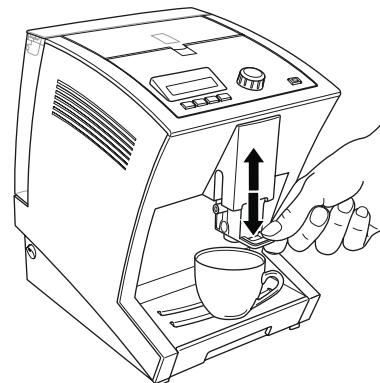

Fig. 5: Placing the cup underneath and adjusting the dispenser height.
1. Place a cup on the cup tray below the coffee-milk dispenser of the device and adjust the height of the coffee-milk dispenser to the cup height (Fig. 5).
2. Place a cup on the cup tray below the coffee-milk dispenser of the device and adjust the height of the coffee-milk dispenser to the cup height (Fig. 5).